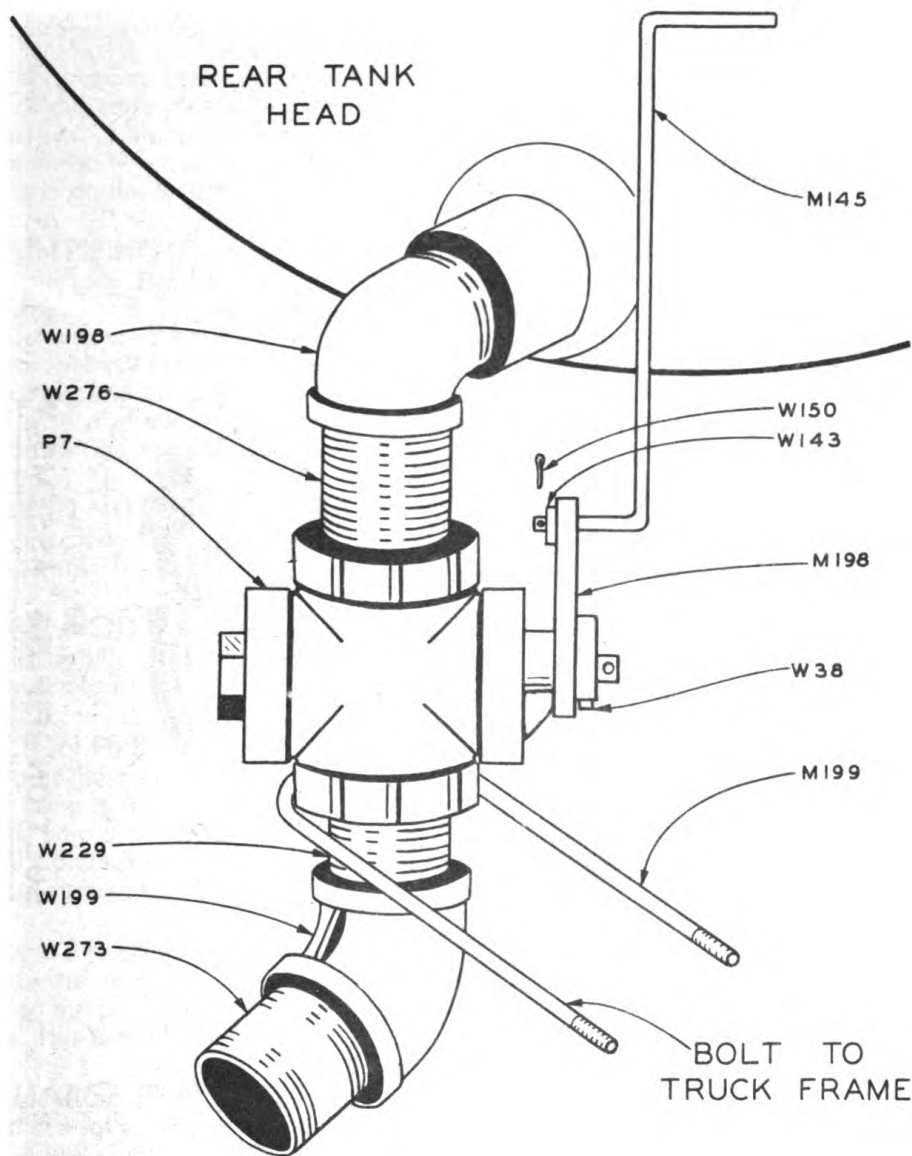

Fig. 27
**DRAIN PIPING (Fig. 27)**—Located at bottom of rear tank head and projecting down beneath rear platform. Turn a W198 Street Elbow into the drain outlet at bottom of tank head and leave the outlet of the elbow pointing downward. Screw a W276 nipple into the Elbow by hand and then the valve onto the nipple. On the opposite of the valve place a W229 nipple and a W199 elbow. Draw this assembly up tight with a pipe wrench. Then turn in a W273 Nipple and shift the entire assembly to the right side of the machine. The M199 Brace is placed through the holes provided in the frame and drawn up tight with two nuts and lockwashers.